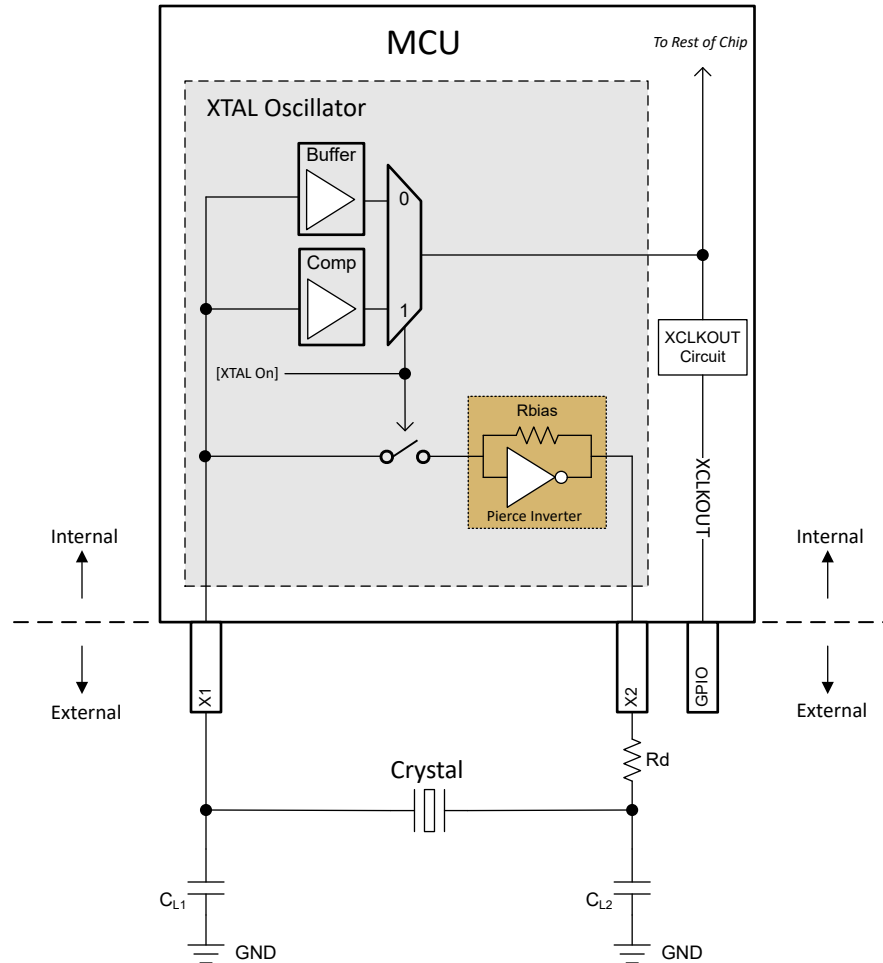

Figure 6-14. Electrical Oscillator Block Diagram
The electrical oscillator in this device is a Pierce oscillator. It is a positive feedback inverter circuit that requires a tuning circuit in order to oscillate. When this oscillator is paired with a compatible crystal, a tank circuit is formed. This tank circuit oscillates at the fundamental frequency of the crystal. On this device, the oscillator is designed to operate in parallel resonance mode due to the shunt capacitor (C0) and required load capacitors (CL). Figure 6-14 illustrates the components of the electrical oscillator and the tank circuit.
From Figure 6-14, CL_1 and CL_2 are in series; so, to find the equivalent total capacitance seen by the crystal, the capacitance series formula has to be applied which simply evaluates to $[CL_1]/2$ if $CL_1 = CL_2$.